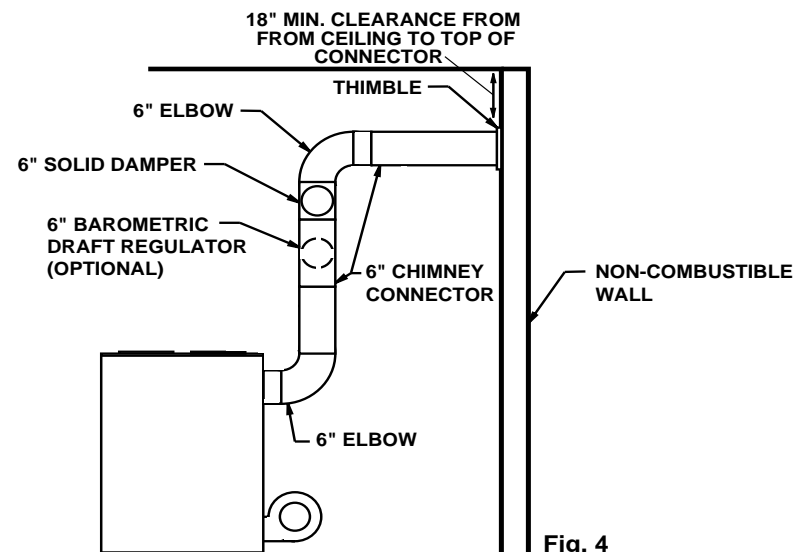

Fig. 4
Before using an existing masonry chimney, clean the chimney and inspect the flue liner to be sure it is safe to use. Make repairs before attaching the furnace. See page 4, item 5. Look at Fig. 4. The connector pipe and fittings you will need to connect directly to a masonry chimney are shown. The chimney connection should be as short as possible.
7. The chimney connector may include a section for a barometric draft regulator between the furnace and the chimney (fig. 4,5, &7). The barometric draft regulator must be installed in the same room (same pressure zone) as the furnace.
9. A solid damper must be used in the chimney connecting pipes between the flue collar and the chimney. When used in conjunction with a barometric draft regulator, the solid damper must be placed between the barometric and the chimney. (See Fig. 4,5,7)